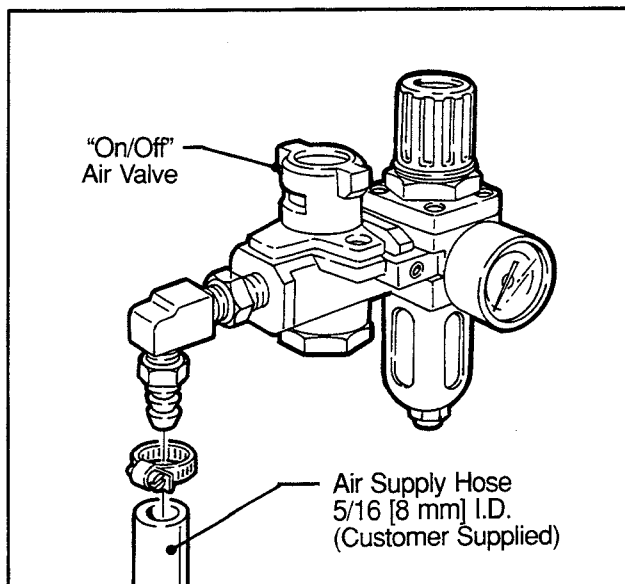

Figure 2-10 – Pneumatic Connection
1. Connect the main air supply line to the inlet side of the On/Off valve using the barbed fitting and hose clamp supplied. See Figure 2-10. The customer supplied air hose (5/16 inch [8 mm] ID) must be clamped tightly to the barbed fitting.